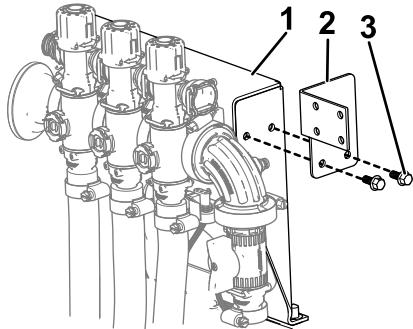

Figure 17
1. Install the control-valve bracket onto the valve-mount frame using 2 flange-head bolts (1/4 x 5/8 inch) as shown in Figure 17.